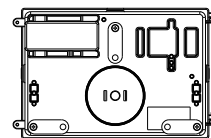

Figure 6
1. Take apart the PC cover and fixture housing. (Figure 6)